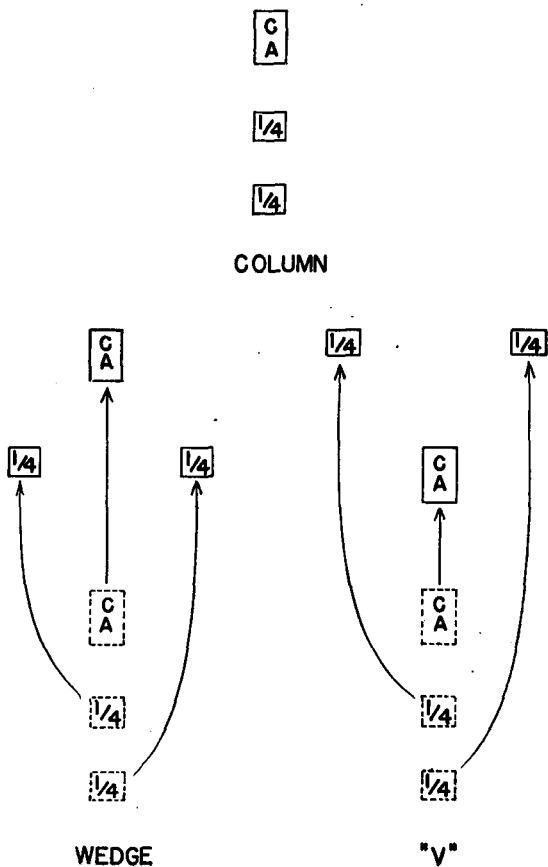

FIGURE 37.—Reconnaissance section.
d. Reconnaissance section.—(1) *Column* (fig. 37).—(See b(1) above.)
(2) *Wedge* (fig. 37).—(See b(3) above.)
(3) “V” (fig. 37).—(See b(4) above.)